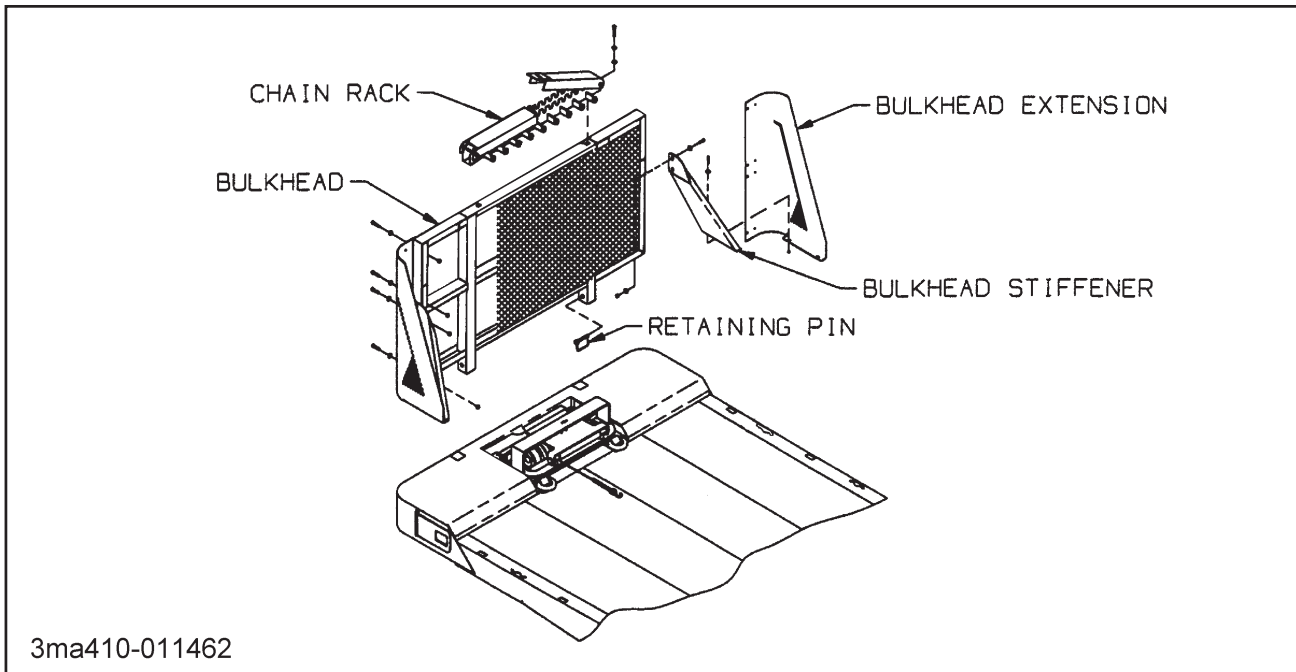

Figure 3-12 Bulkhead
**3-20.1** Optional bulkheads may come with or without chain racks. To remove a bulkhead, disconnect the electrical harness (if work lights are present), remove retaining pins holding the bulkhead into the pockets on the semitrailer front and bolts and nuts attaching the bulkhead extensions and supports to the deck, and lift the bulkhead off (See Figure 3-12).